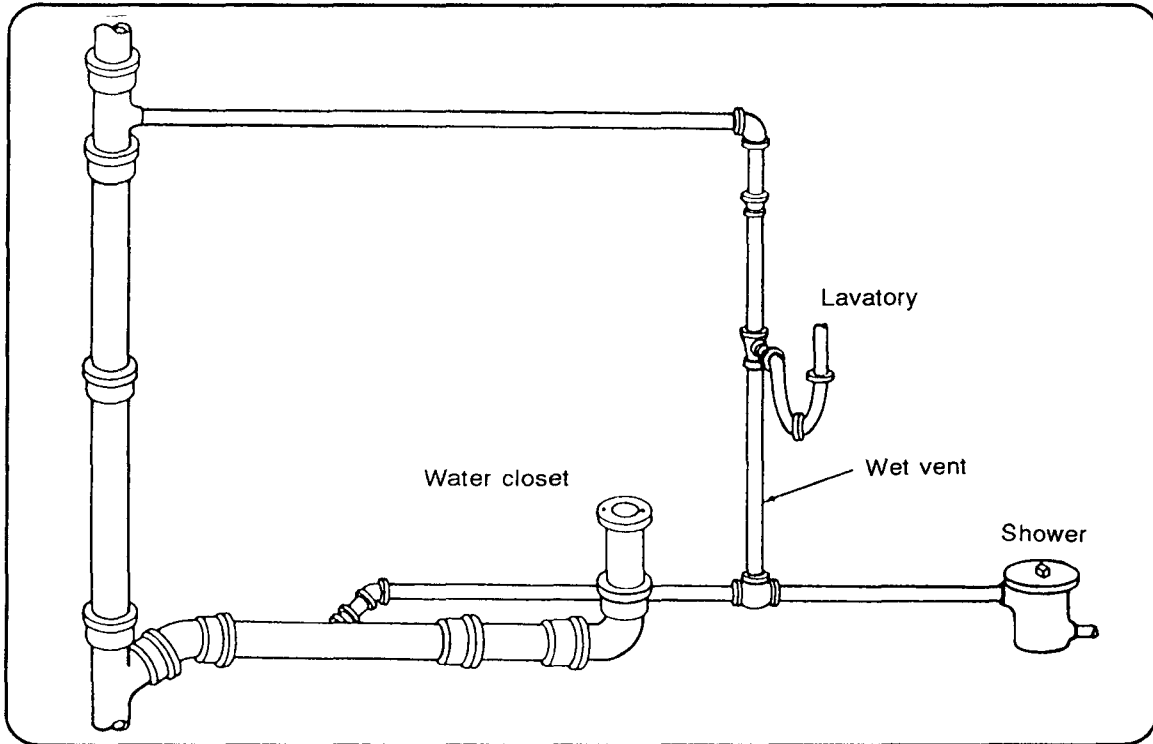

Figure 9-12. Group of wet-vent fixtures
c. *Wet Vent.* The wet vent (Figure 9-12) is part of the vent line through which liquid wastes flow from another fixture that has an individual vent. It is used most commonly on a small group of bathroom fixtures. A disadvantage is that the vent tends to become fouled with waste material, which reduces its diameter or causes a stoppage. The size of the pipe for a wet vent must be large enough to take care of the fixtures based on the total DFUs.